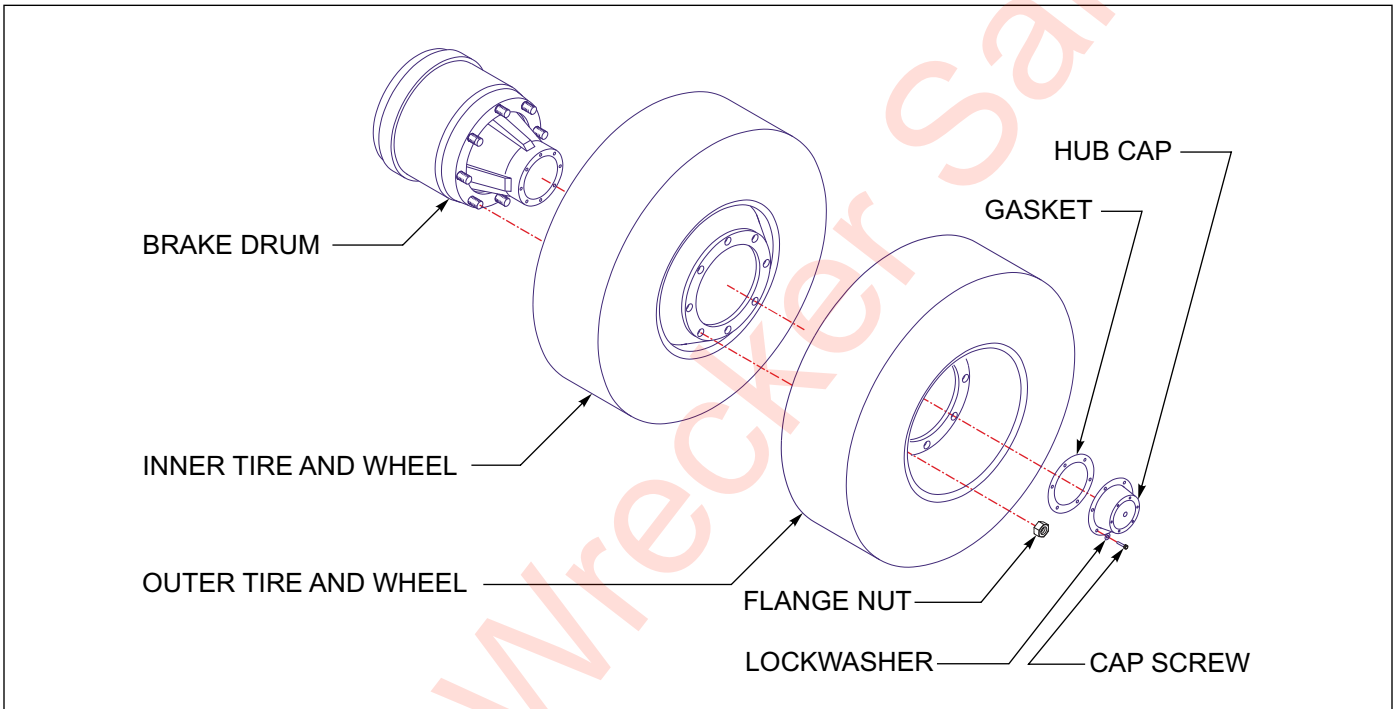

Figure 4-17: Mounting Tires and Wheels
1. Make sure that all mounting surfaces are clean and free of rust, dirt or paint. A wire brush may be used to clean these surfaces (See Figure 4-17.)
4. Install the flange nut and tighten to 50 foot-pounds using the sequence in (Figure 4-17.) Then tighten to full torque of 450 to 500 foot-pounds.